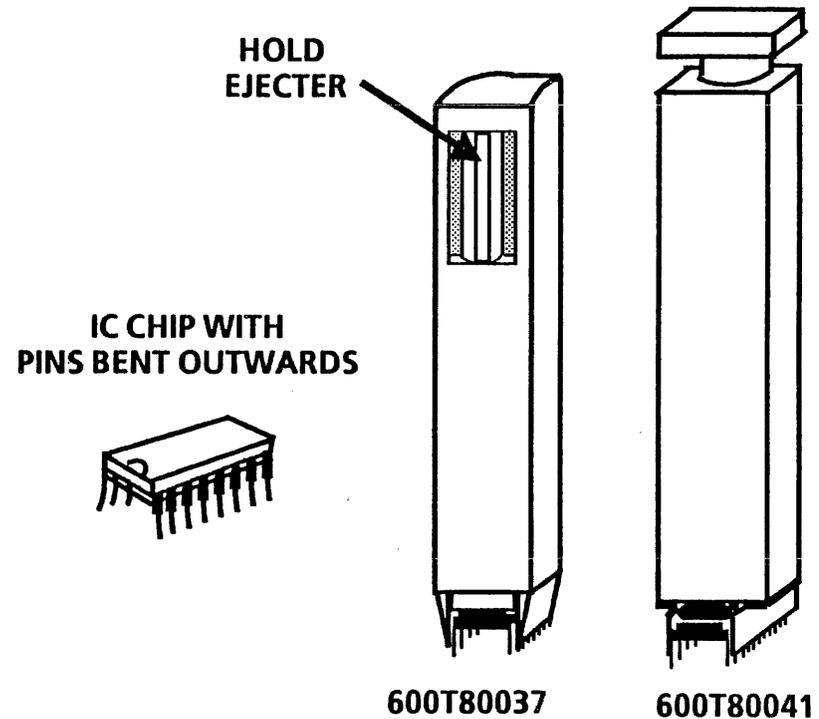

Figure 4-15 Straightening Bent IC Chip Pins
### REPLACEMENT (Figures 4-15, 4-16 and 4-17)
2. If the pins are bent outwards, they must be straightened before the IC Chip can be installed. (Figure 4-15)
- b. Gently push the IC chip into the correct insertion tool with your fingers or place the IC chip on a flat surface and use the tool to pick up the IC chip, rocking the tool back and forth gently. (When using the fourteen to sixteen pin insertion tool [600T80037] to pick up an IC chip, you must hold in the ejector button.) (Figure 4-15)